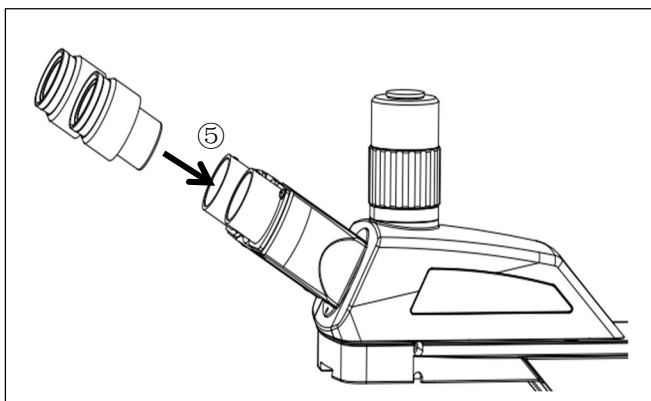

Fig.6
3-2-4 Install the Eyepiece(Fig.6)
1. Inserts the eyepiece into the watch holder by the serial number in Fig.6 to the face.